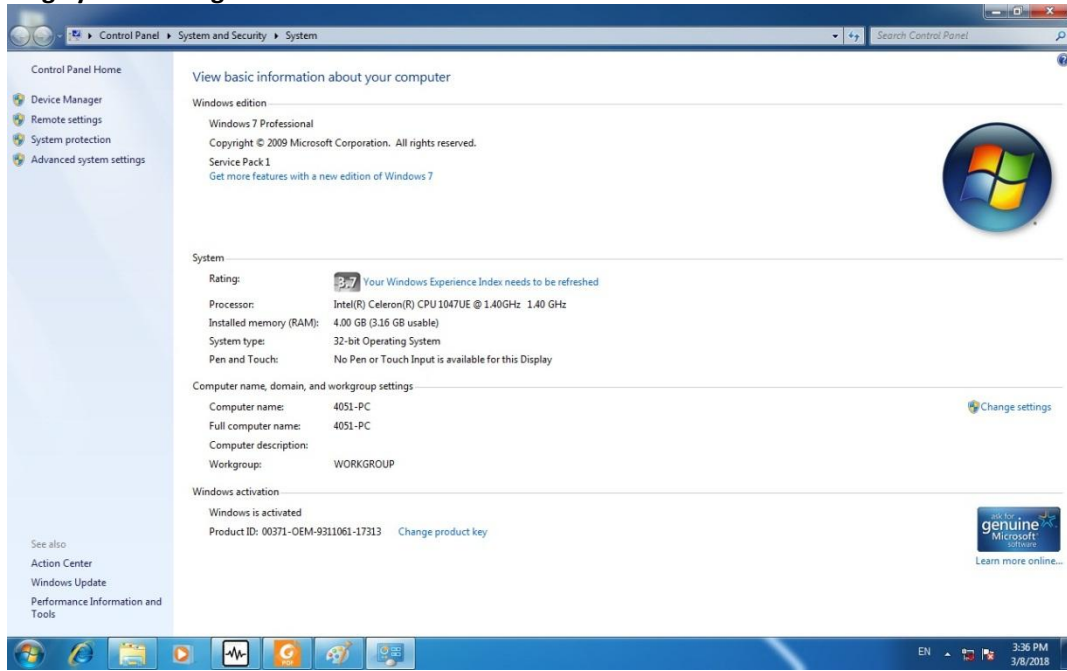

Fig. 2.12 Change Host Name
- Step 1.** Click the [Start] menu, select [Computer], and then right click the mouse for [Properties] → [Change Settings] → [Change] as shown in Figure 2.12;